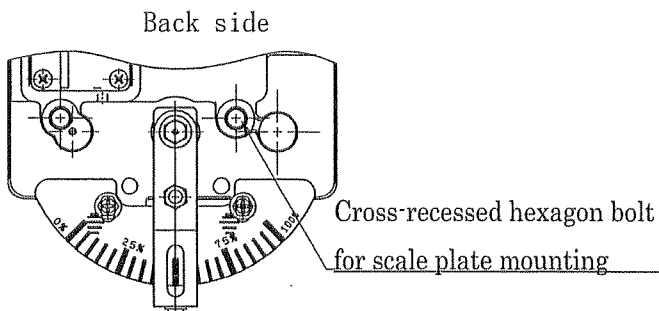

Fig.26 Scale plate (Back side)
- (3) At the end of start and stop of actuator, confirm needle points 0% and 100% of scale plate respectively. If the needle points others, position the needle by loosening cross recessed hexagon bolt holding scale plate with spanner and sliding the scale plate. (Refer to Figure 26. 27.)